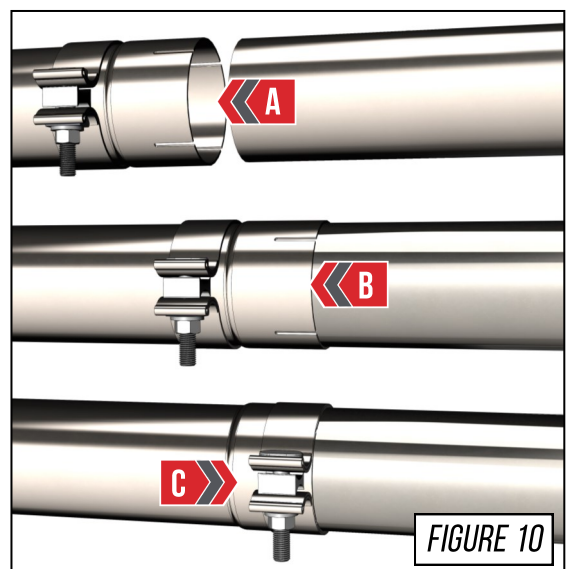

FIGURE 10
**Arrow A** in **Figure 10** shows the expanded pipe and the preinstalled Accu-Seal clamp being brought up to the corresponding pipe.
**Arrow B** in **Figure 10** shows the overlapping pipe installed correctly over the corresponding pipe.
**Arrow C** in **Figure 10** shows the Accu-Seal clamp being brought to the edge of the expanded pipe.